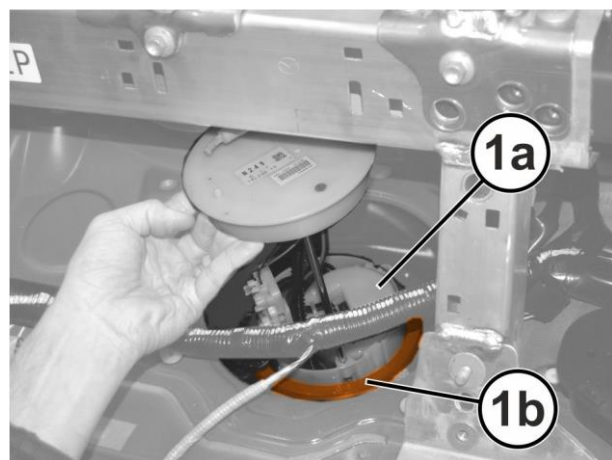

Figure 22 – Fuel Delivery Module
- 48. Remove the fuel delivery module (1a) from the fuel tank (Figure 22).
- 49. Remove and **DISCARD** the module gasket (1b) (Figure 22).
12. Position the **NEW** fuel delivery module gasket (1b) on the fuel tank then insert the fuel delivery module (1a) into the fuel tank (Figure 22).